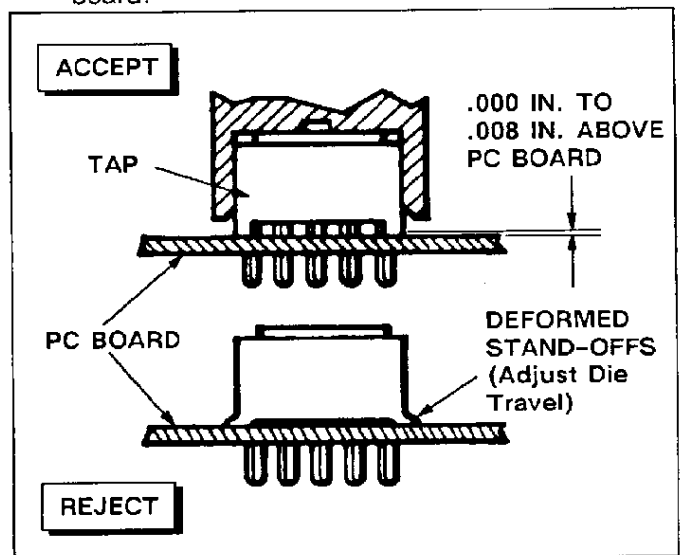

Fig. 2
6. Repeat Steps 4 and 5 until power tap is .000 in. (fully seated) to .008 in. above pc board. See Figure 2.